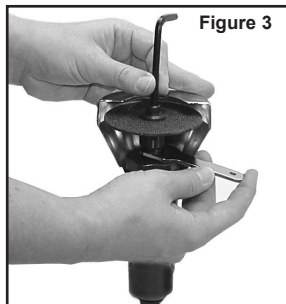

Figure 3
- Assemble the cut-off disk to the cut-off tool (see Figure 3):